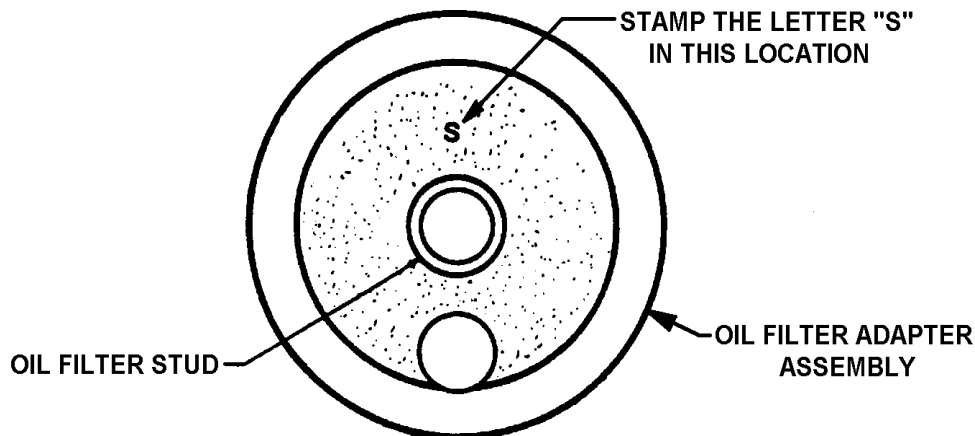

Figure 18-5
Oil filter adapters that incorporate this modification from the factory can be determined by the letter "S" stamped into the adapter housing, See Figure 18-5 "Stud Identification."
- c. Install the applicable new stud (P/N 653490) and confirm that the incomplete thread on the stud stops at the first thread in the adapter housing and does not continue into the housing below the minimum .500" extension. See Figure 18-5, "Oil Filter Adapter Stud Inspection." Replace the adapter housing if the extension is less than the specified .500" minimum.
- g. After installation of a new oil filter adapter stud, stamp a .125" high letter "s" in the location shown in Figure 18-5 Stud Identification